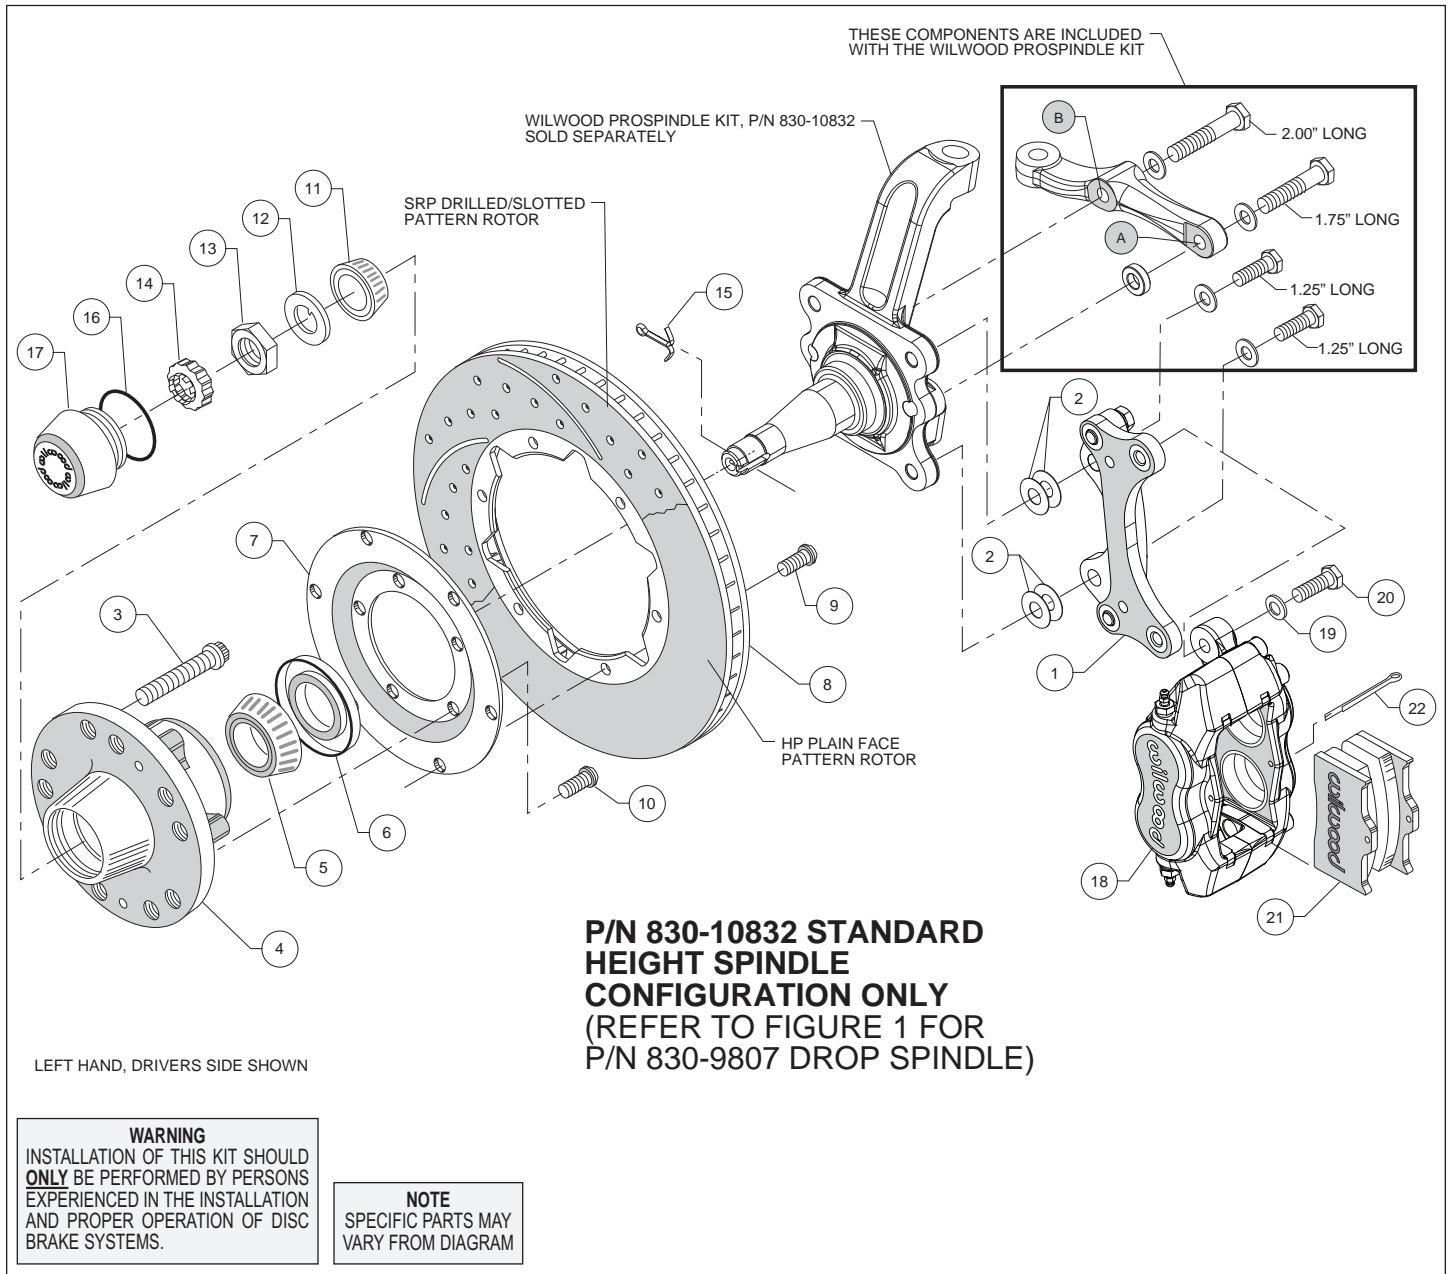

Figure 2. Installation Configuration For Standard Height Spindle, P/N 830-10832
- Orient the bracket as shown in Figure 2 and Photo 2. Install using 1.25" long bolts and .06" thick washers (from ProSpindle kit), and two .016" thick shims (2) on each bolt between the bracket and spindle, Figure 2. Temporarily tighten mounting bolts. **NOTE: The bracket must fit squarely against the mounting points on the spindle.** Inspect for interference from casting irregularities, machining ridges, burrs, etc. Later, after the caliper alignment has been checked, the mount bolts will be secured using red *Loctite*® 271.
- Orient the steering arm, and identify the hole marked 'A', as shown in Figure 2. Install using 1.75" long bolt, .06" thick washer, and .30" thick spacer (all from ProSpindle kit), Figure 2.
- Finish attaching the steering arm through the hole marked 'B', as shown in Figure 2. Install using 2.00" long bolt and .06" thick washer (from ProSpindle kit), Figure 2.